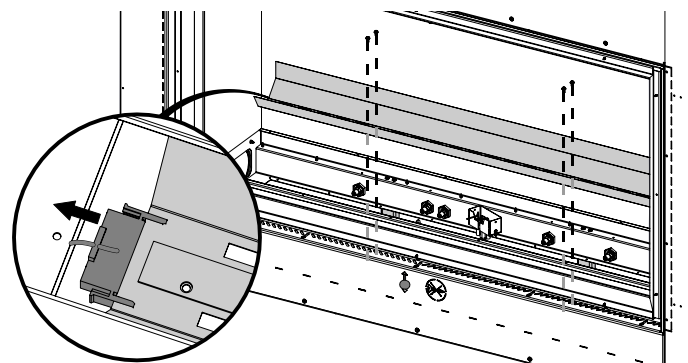

Fig. 3
6. Disconnect the wires at both ends of the LED Sleigh Assembly (**Fig. 3**).
7. Remove the LED Sleigh Assembly by removing the securing screws. Replace and reinstall components (**Fig. 3**).